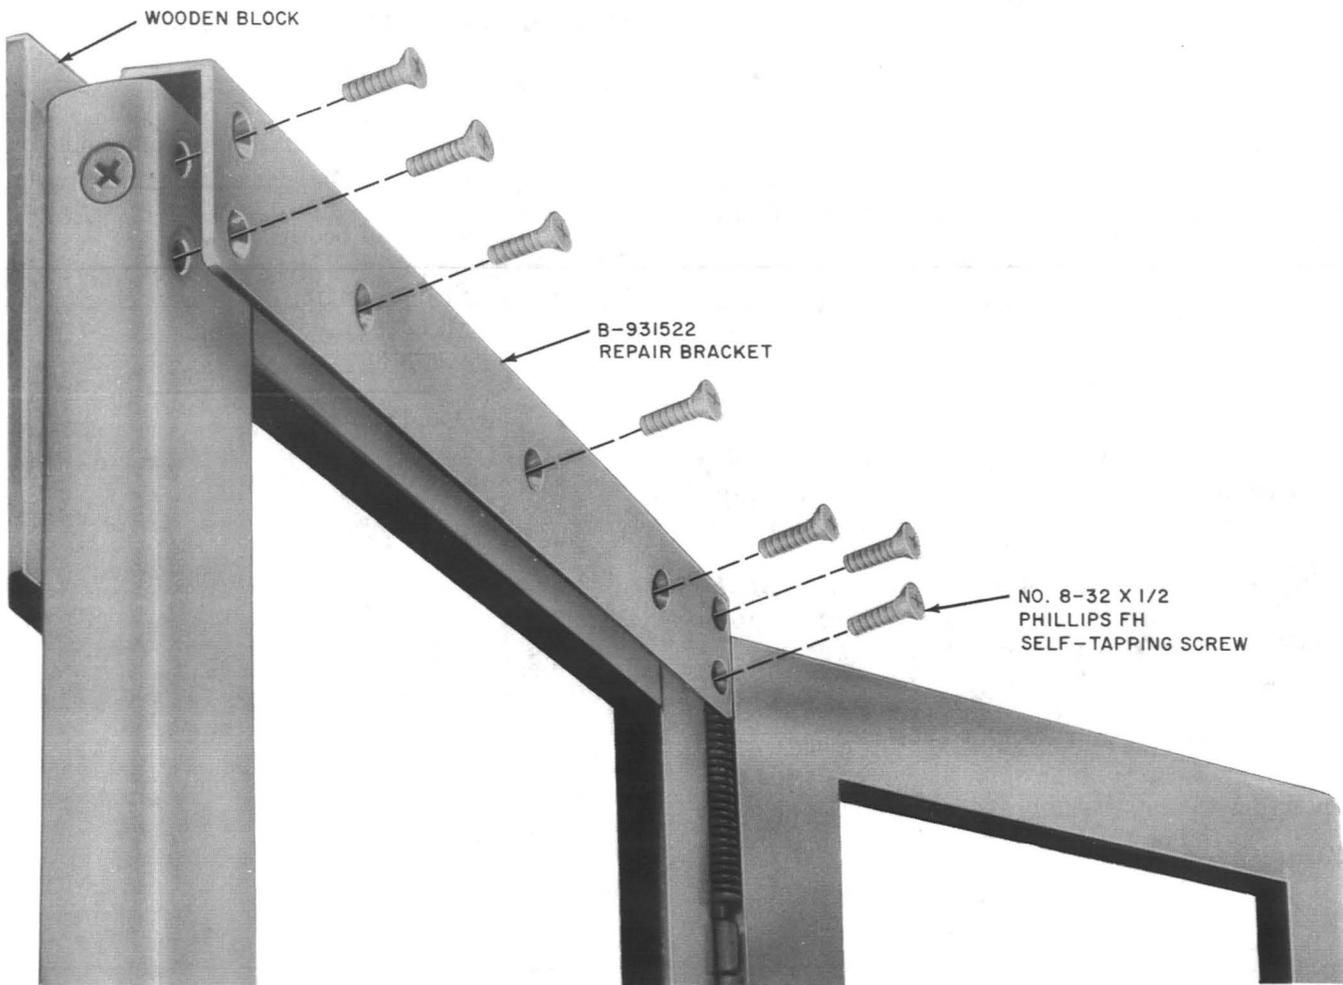

Fig. 17—Installation of Door Repair Bracket
4.08 Replace door sections that have broken mitered joints. Repair solid-type (one piece) sections (Fig. 17). Fracture usually occurs because of misuse, improper adjustment, or because booth is not level. Check the cause and repair as follows: